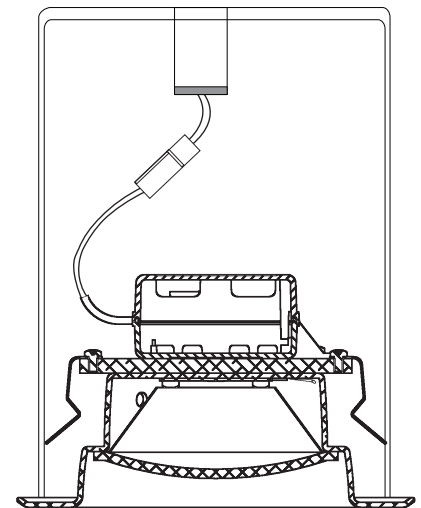

Fig. 3
Step 6. Carefully route wires into housing and push module up flush to ceiling surface (Fig. 3).